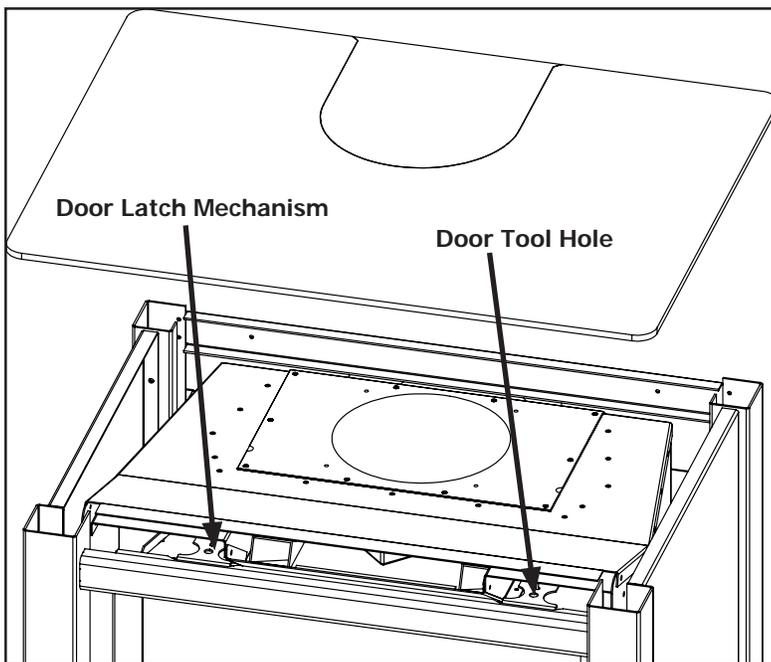

Figure 8. Top latches for glass door
In order to install the log set, and for regular cleaning, the glass door must be removed. The Face must first be removed, as outlined in the section above, before accessing the door latches. There are two (2) door latch mechanisms on top the glass door as shown in Figure 8. Each latch has a hole at the front to use the door tool, supplied with the unit, to pull the mechanisms straight out and up. When the top latches are unhooked, lean the door forward and then lift it up out of the alignment slots at the bottom corners of the firebox.